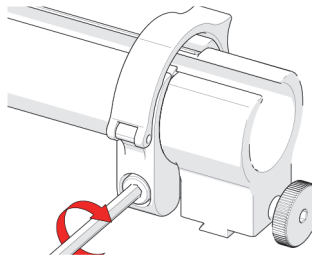

Figure 2-50 Tighten clamp screw
4. Tighten the clamp screw (see Figure 2-50 on page 70).